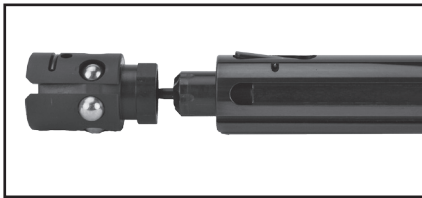

Figure 15
4. Install the **Bolt Head** onto the front of the bolt assembly with the slot in the bolt head lined up with the large slot in the bolt body – see Figure 15.